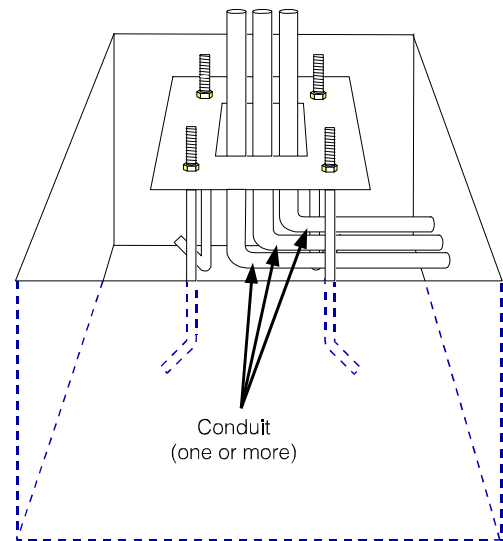

Figure 4.
Step 3 Route the conduit (one or more) so it/they will extend through the center of the hole, and upward approximately 6 inches through the center of the template as shown in Figure 4.